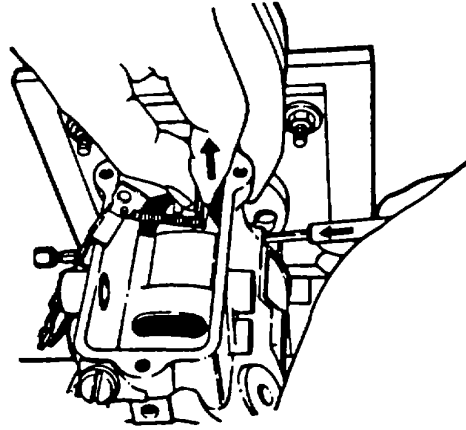

FIGURE 3-82. Removing Governor Arm
- ar. Remove governor arm (44), and linkage hook assembly (46), refer to FIGURE 3-82.